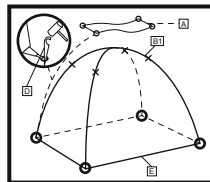

FIG4
6. Now carefully place the outer tent<A> over the inner tent<E>.(FIG4)